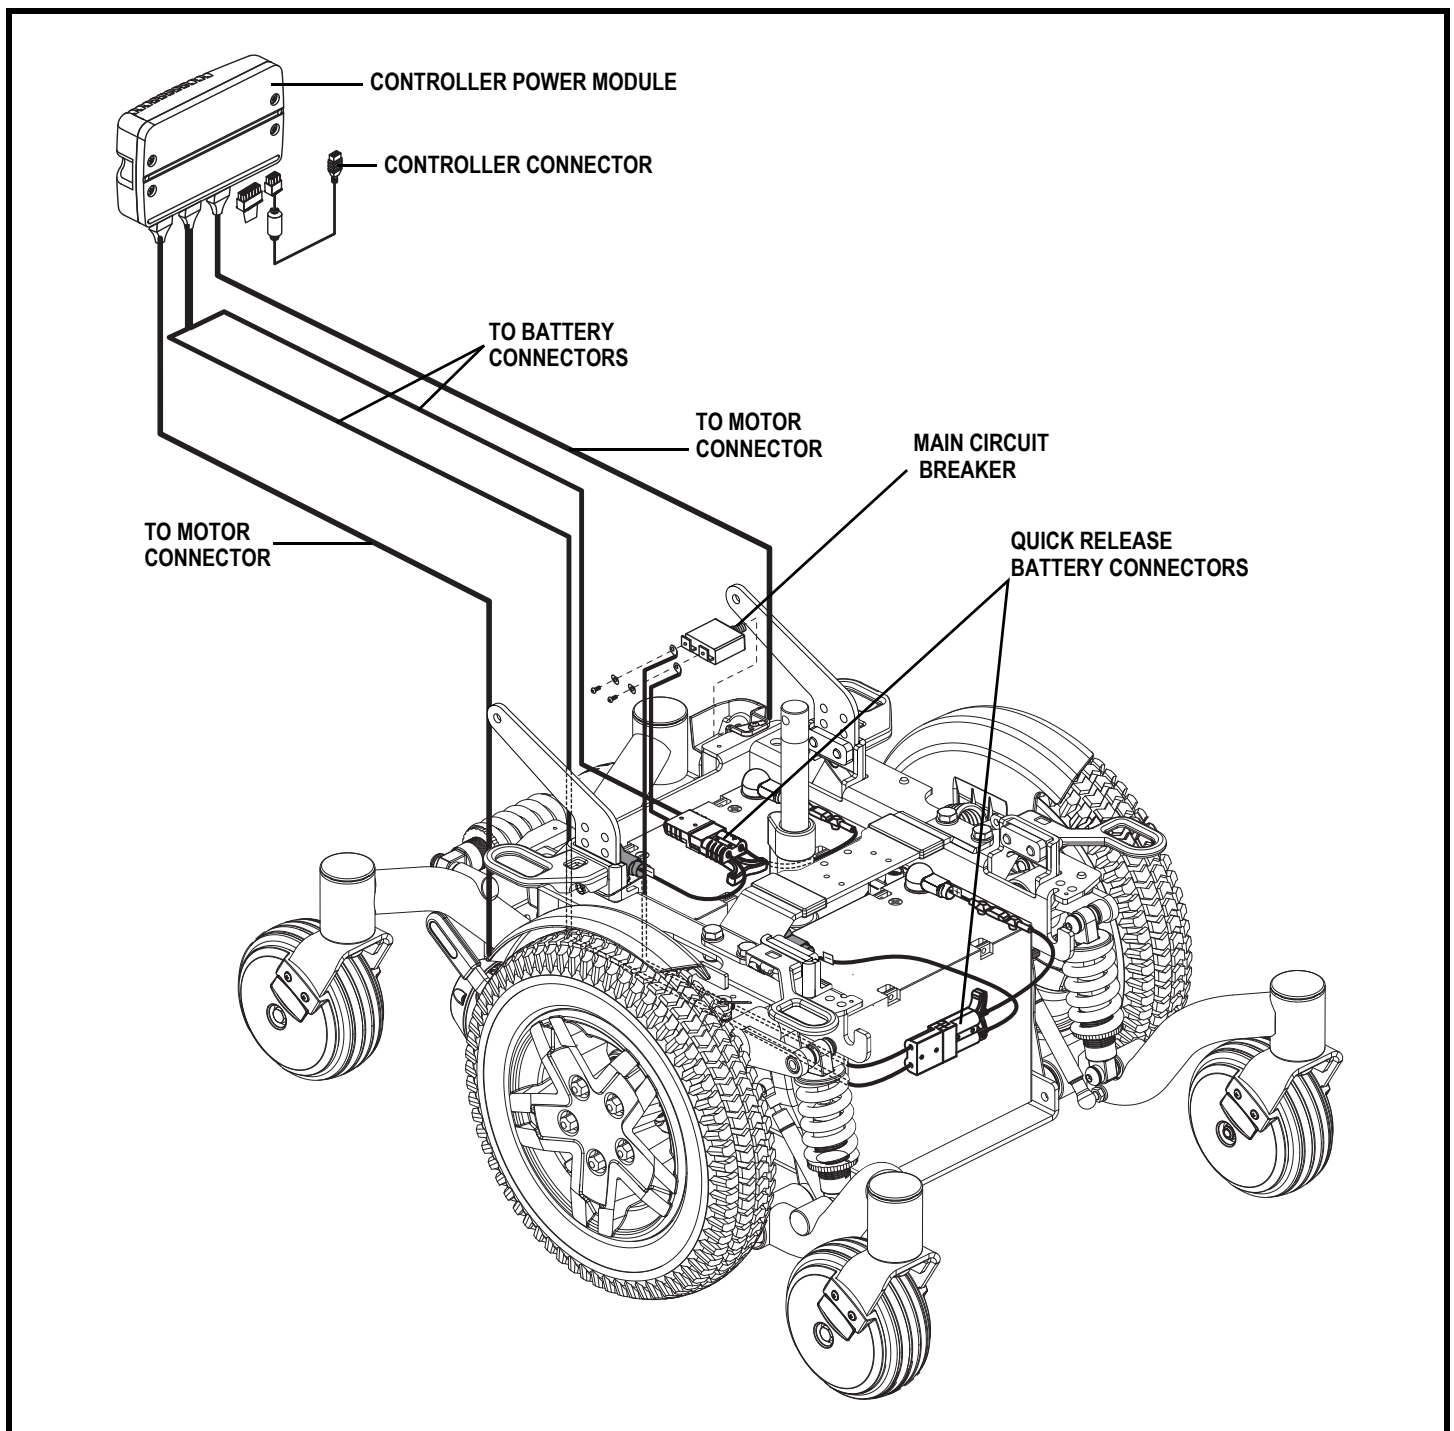

Figure 3. Q6 Edge Electrical Components
The electrical components consist of the controller assembly, the batteries, and the motors. The batteries, motors, and controller power module (if equipped) are located on the power base assembly. The controller is located on the seat assembly. Connectivity between the controller and the motors, batteries, and the battery charger is provided by one or more wiring harnesses. **See figure 3.**
4. Plug the controller connector into the rear of the power base. See figure 3.